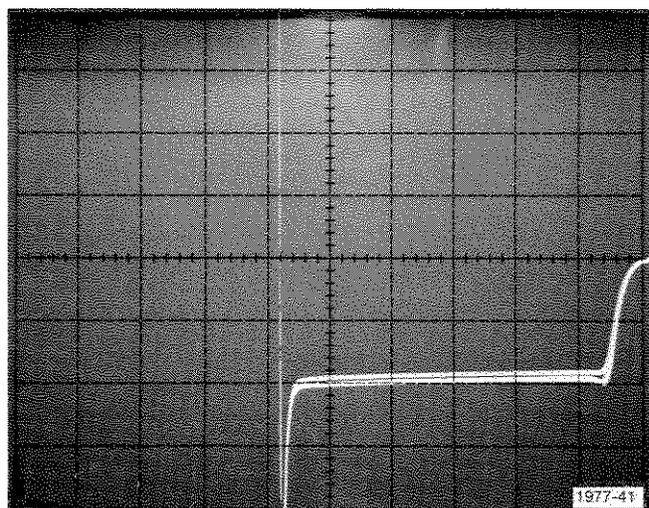

Fig. E-5. + and - input bias current.
f. Check that the Input Offset Current is ≤ 50 nA dc (one division of display gap minimum, the opening between the +INPUT I and the -INPUT I displays is the Input Offset Current, See Fig. E-5).